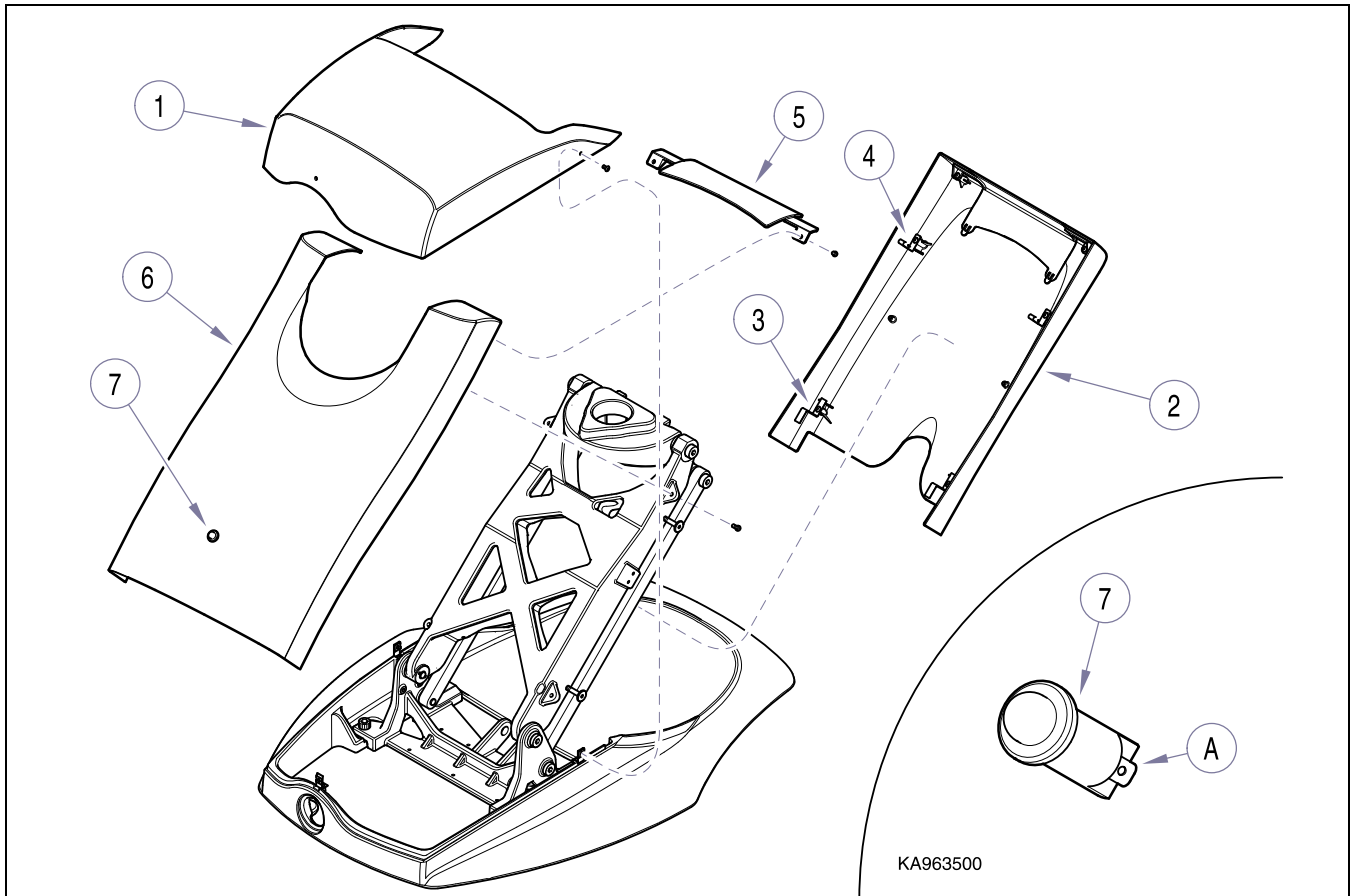

Figure 4-2. Covers
- (1) Unplug chair power cord.
- (2) Remove hydraulic cover (1, Fig. 4-2), three screws.
- (3) Remove safety bail cover (2):
- a.) Pushing inward on top of cover while pulling down to unhook top brackets (4).
- (4) Remove end cover (5), two screws.
- (1) Install pilot light (7, Fig. 4-2) on lift arm cover (6).
- (2) Connect red lead to + terminal (A) of pilot light (7), plug chair in and check operation. If light does not glow, unplug chair and reverse leads.
- (3) Install lift arm cover (6) on chair and secure with four screws.